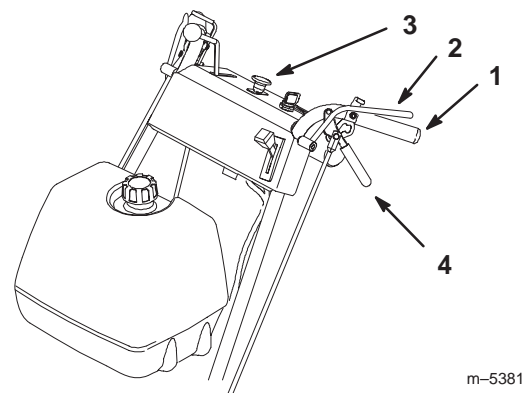

Figure 15
- To engage blade, squeeze the Operator Presence Control (OPC) levers against handle grips (Fig. 15).
1. Push the blade control switch (PTO) to off (Fig. 15).
2. Release Operator Presence Control (OPC) levers to disengage blades (Fig. 15). This will also kill the engine.